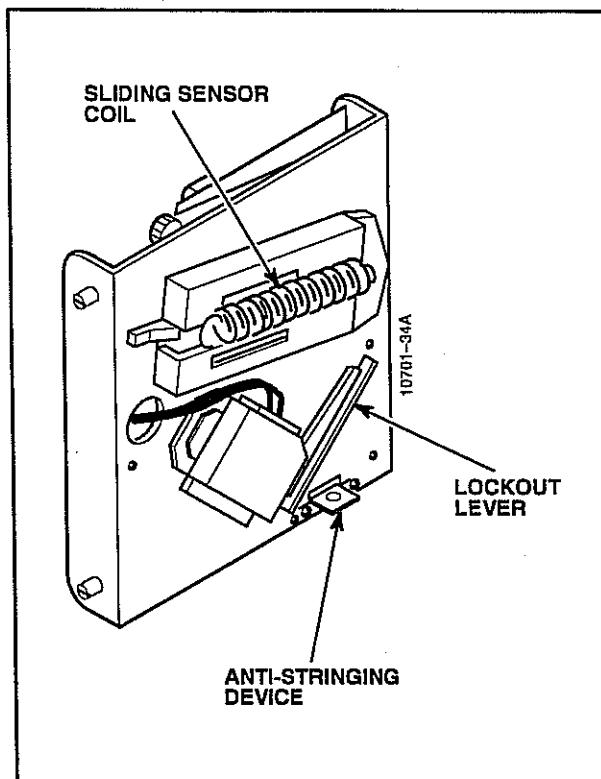

Figure 5-11. Comparitor – Back View.
4. Refer to Figure 5-11 to remove the extension spring on the back of the comparitor from the metal bracket on the sensor coil.